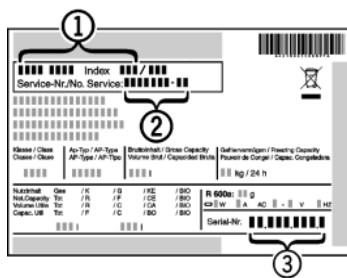

Fig. 17
- ▶ Read off the appliance name Fig. 17 (1), service no. Fig. 17 (2) and serial no. Fig. 17 (3) from the model plate. The model plate can be found on the inside of the appliance on the left.